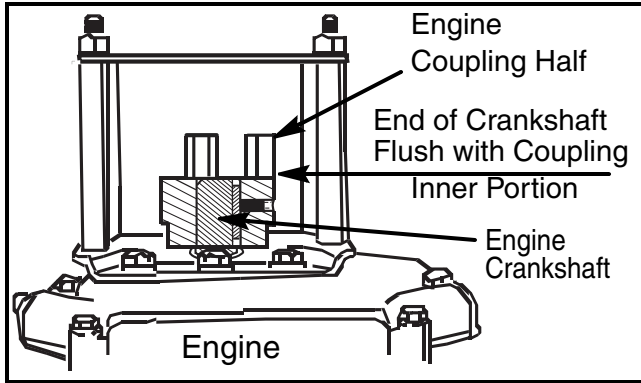

FIGURE 4
26. Position the engine coupling half and key onto the engine crankshaft until the end of the crankshaft and key are flush with the inner portion of the engine coupling half. (Check to ensure that there is space between the end of the engine support bracket and coupling half). Tighten engine coupling half to the crankshaft. Torque set screw to 78 in-lbs. See Figure 4.